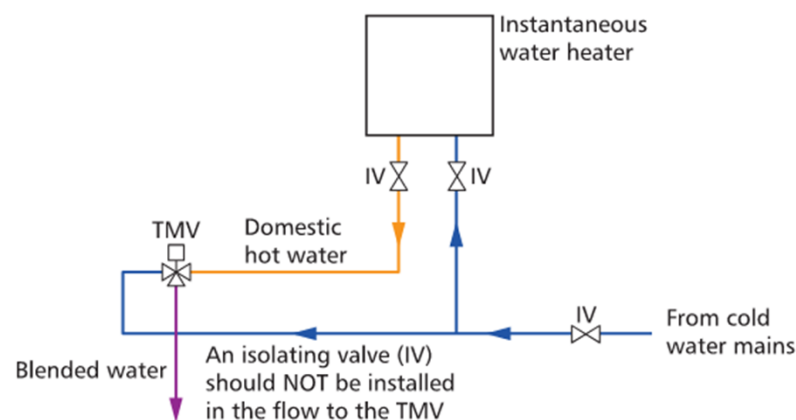

Figure 2 Pipework arrangement to prevent hot water bypass in event of cold water failure
- For instantaneous systems, the secondary shut-off function can be provided inherently within the design of the hot water system. Figure 2 shows recommended pipework configuration – no separate IV for cold to TMV(p.7).